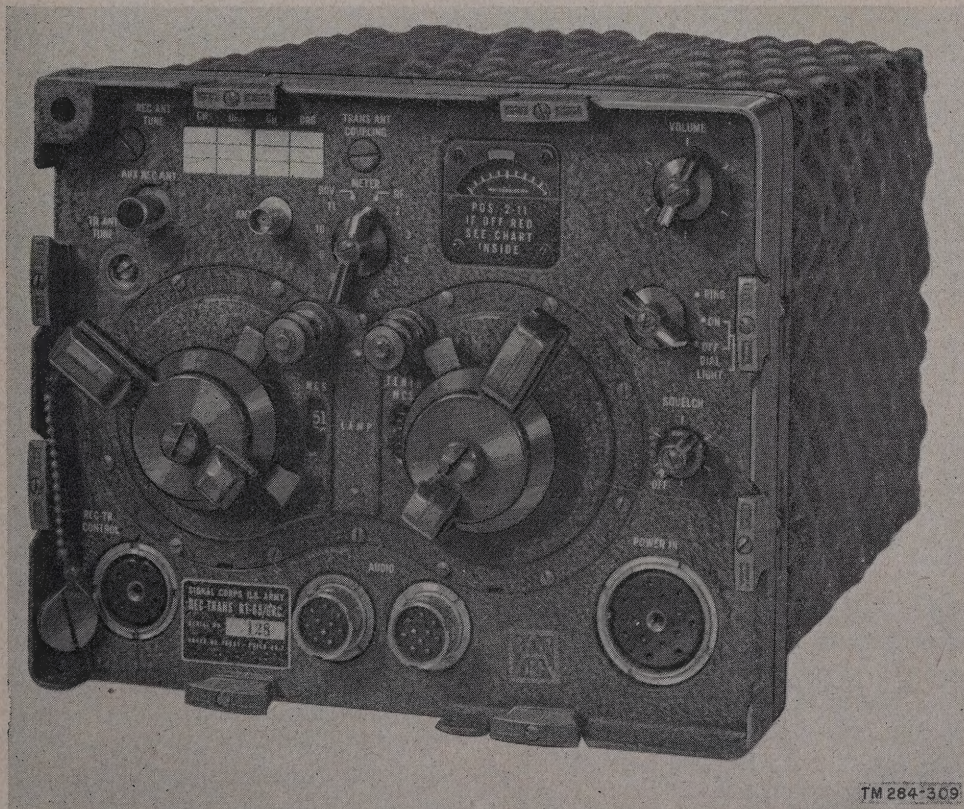

Figure 4. Receiver-Transmitter RT-68/GRC.
b. All Set 1 receiver-transmitters are very similar in structure, function, detailed circuitry, and mechanical arrangement. They differ from each other only in their operating frequency ranges and in those components which determine the frequency ranges. Receiver-Transmitter RT-68/GRC (fig. 4) is externally similar to the other Set 1 receiver-transmitters except for the calibration of the tuning dial. Characteristics pertinent to system operation are listed in paragraph 5. Detailed information on the receiver-transmitter is contained in TM 11-289.
e. Structurally, the receiver-transmitters are panel-chassis assemblies inclosed in a metal case (fig. 4). The bottom of the case is fitted with channel rails which are used to secure the unit to the vehicular mounting. When the case is removed, the r-f and i-f (intermediate-frequency) chassis assemblies are available at either side of the unit (figs. 82, 83, and 84). All tubes are mounted on these vertical chassis.